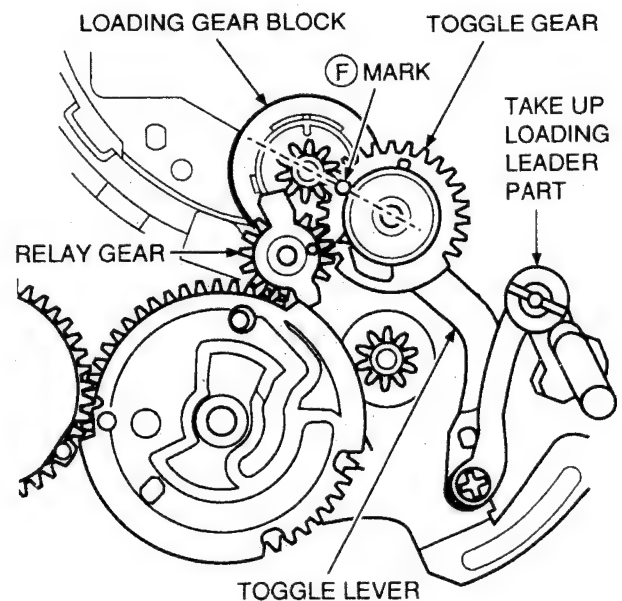

Fig. 3-33
- 2) When placing the TOGGLE GEAR BLOCK, the TOGGLE GEAR BLOCK's ⓔ mark should be aligned with the LOADING GEAR BLOCK's shaft as shown in Fig. 3-33.